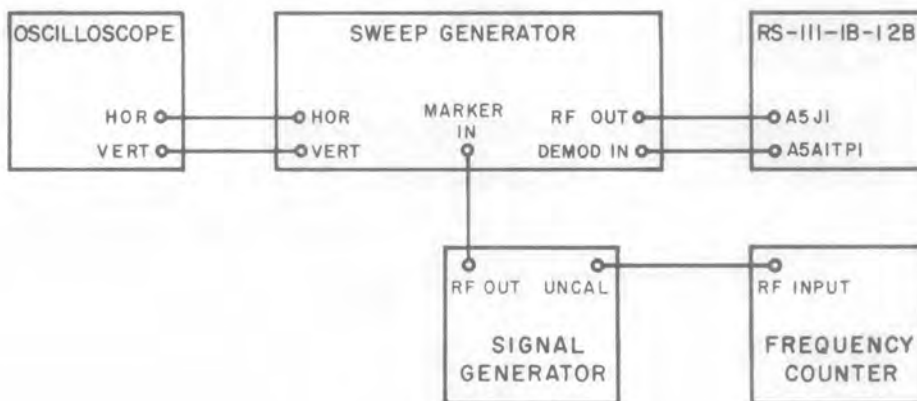

Figure 4-38. Test Setup, Signal Monitor
- (1) Connect the equipment as shown in Figure 4-38.
- (2) Set the oscilloscope controls as follows.